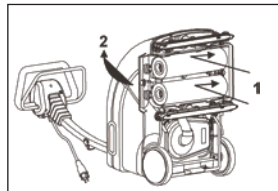

Fig. 2
- Loosen slotted screw and fix the brushes manually as represented in Fig. 2 in direction 1.